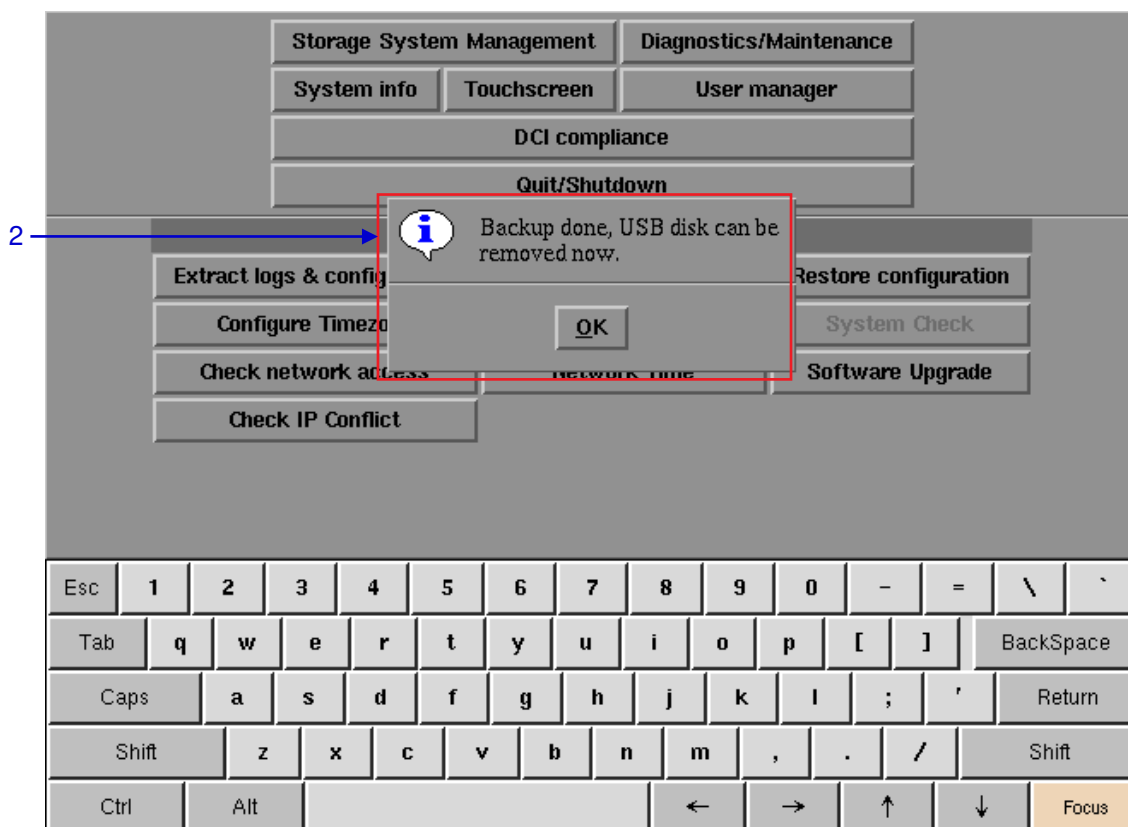

Figure 101 Saving IMB configuration
- 2** The backup file is saved in an encrypted format as seen in **Figure 101**. The following configuration files are included in the backup file: